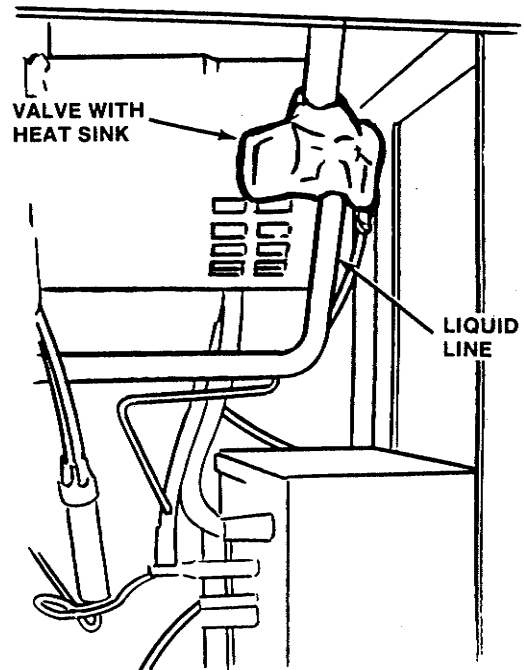

Figure 38. Removal of A.X.V. or T.E.V.
5. Apply a heat sink (wet cloth) to the valve dome (Fig. 38).